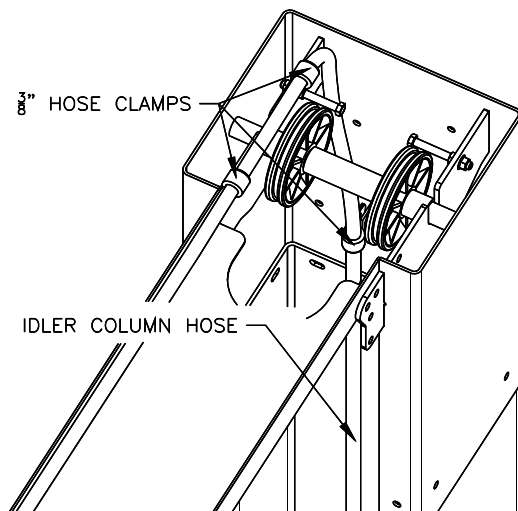
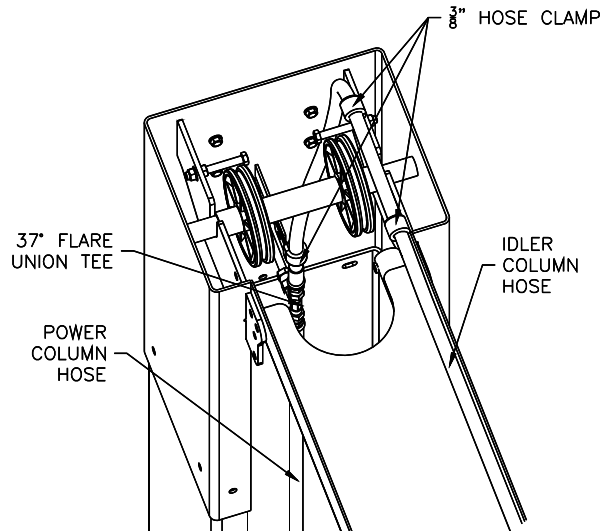

Fig 8a – Hose Routing, Idler Side Column Ext.
Fig 8b – Hose Routing, Power Side Column Ext.
- 23) Uncoil Idler side hose and route through the Idler Side column extension as shown in **Fig 8a**. taking care to avoid the synchronizing cables and hydraulic cylinder path. Remove slack and tighten all 3 clamps. Route hose across overhead avoiding the synchronizing cables and down through the Power Side column extension as seen in **Fig 8b**. Do Not Tighten Clamps at this time.
- 24) Loosely attach power column hose and idler column hose using the tee fitting (*in hardware box*) Attach Power Unit Hose to power side column extension as seen in **Fig 9a**. Connect Power unit hose to tee from **Fig 8b** and remove slack from power column hose. Tighten loose fittings and clamps from previous step. Serpentine any extra hose length in overhead.